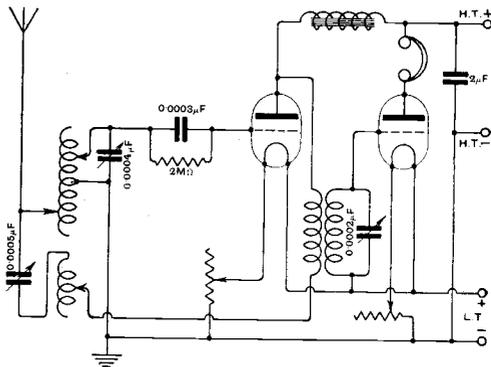

Fig. 5. "D.M." (Belgium). Connections of a Reinartz receiver with one stage of H.F. amplification.
(1) The diagram is correct. (2) We do not know where suitable transformers may be purchased ready made. We suggest you construct these yourself. (3) The method of employing reaction in this receiver is fully described in the article referred to. (4) A diagram of the Reinartz receiver with one H.F. valve is given in Fig. 5.